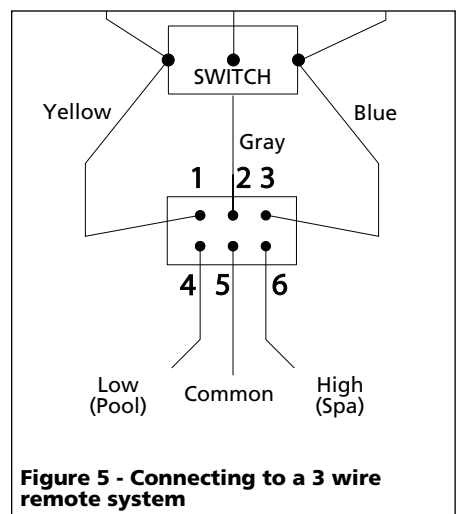

Figure 5 - Connecting to a 3 wire remote system
4. See figure 5 for wiring diagram of 3 wire remote system